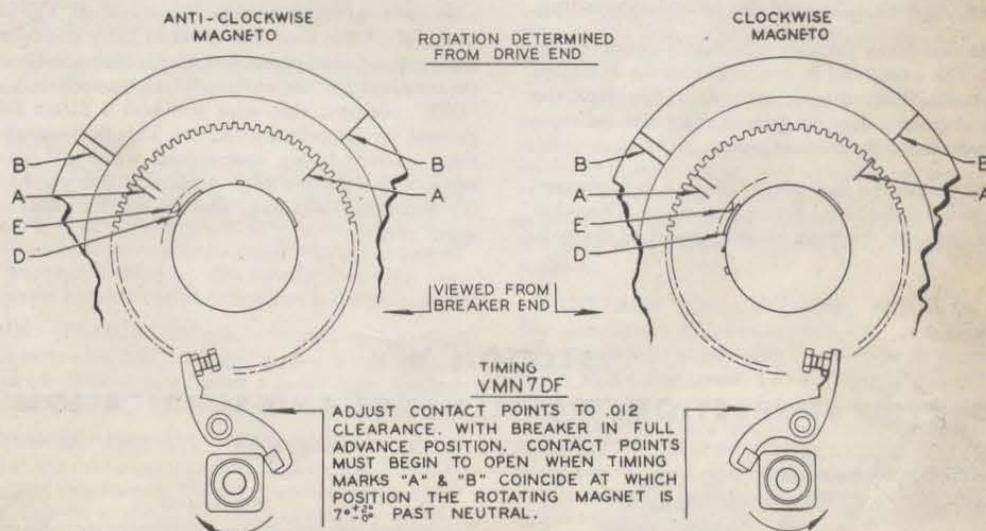

Figure 4—Timing Marks on Large Distributor Gear
c. Turn the magneto shaft until the timing marks (A) on the large distributor gear come approximately opposite the timing marks (B) on the inside of the front end plate. (See figure 4.) Install the magneto to the engine as nearly as possible in this position but do not tighten the mounting screws until final adjustment has been made.
d. By turning the VMN7DF and VMN7DF-5 magnetos through the range provided by the slots in the mounting flange, or by adjustment of the drive coupling of the VMN7D magneto, adjust magneto so that the contact points (C) (figure 4) just begin to open. Use the Abbott A-100 timing light or equivalent to determine the position where the contact points start to open. After this adjustment is made, tighten and lock the mounting studs.
a. Remove the cable piercing screws from the distributor blocks to avoid any possibility of the high tension cable not being fully seated in the cable holes. Insert the spark plug cable for No. 1 cylinder into the distributor block cable hole marked No. 1, and secure it with the cable piercing screw. Insure that cable piercing screw is tight. Place the spark plug cable for the next cylinder to fire in the distributor block hole marked No. 2, etc. The numerals on the distributor blocks indicate the order in which the sparks are delivered by the magneto and have no relation whatsoever to engine cylinder numbers. It is recommended that the section of cable within the distributor blocks be treated with powdered talc to prevent the cable from fusing to the wall of the hole. Insert the cable from the booster source into the cable hole marked (H) and secure it with the cable piercing screw. No